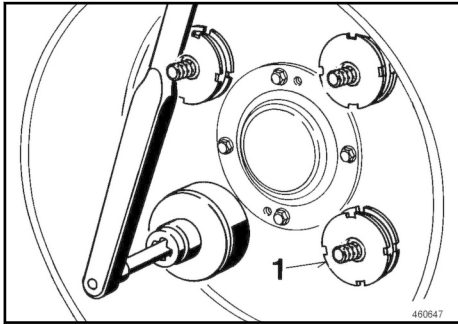

Fig. 249
1. Tighten rubber buffer 1 ↪ Fig. 249 with a matching rubber buffer mounting bell.